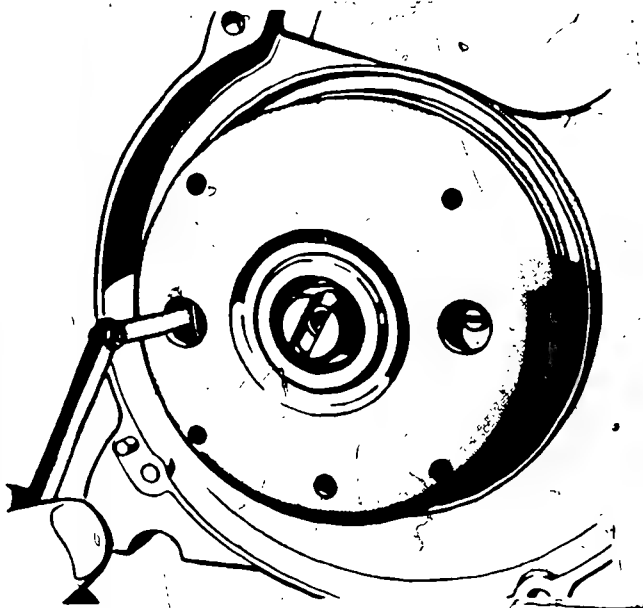

Fig. 5
Fit new charging armature. Adjust air gap to 0.25 to 0.35 mm (Fig. 5).
to 0.35 mm (Fig. 5).
ywheel. Set air gap to 0.25 to 0.35 mm (Fig. 5).
ning torque as given by engine manufacturer). Set air gap to 0.25 to 0.35 mm (Fig. 5).
0.25 to 0.35 mm (Fig. 5).